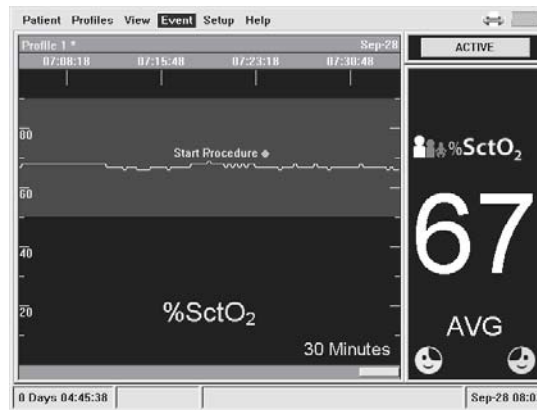

Figure 36: Final Position of Event Mark
- 4 Press the rotary control knob once more to place the Event Mark on the trace where the two lines intersect (see Figure 36 below).